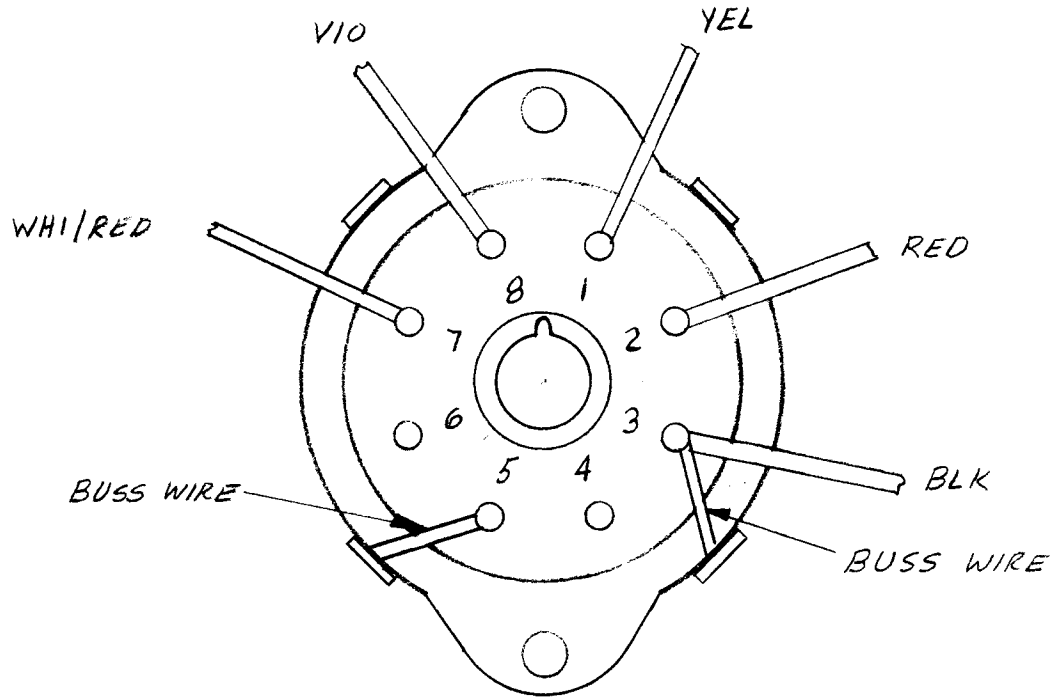

Fig. 3
3. Using a piece of the tubing over each lead, solder the cable leads to the socket using Fig. 3.